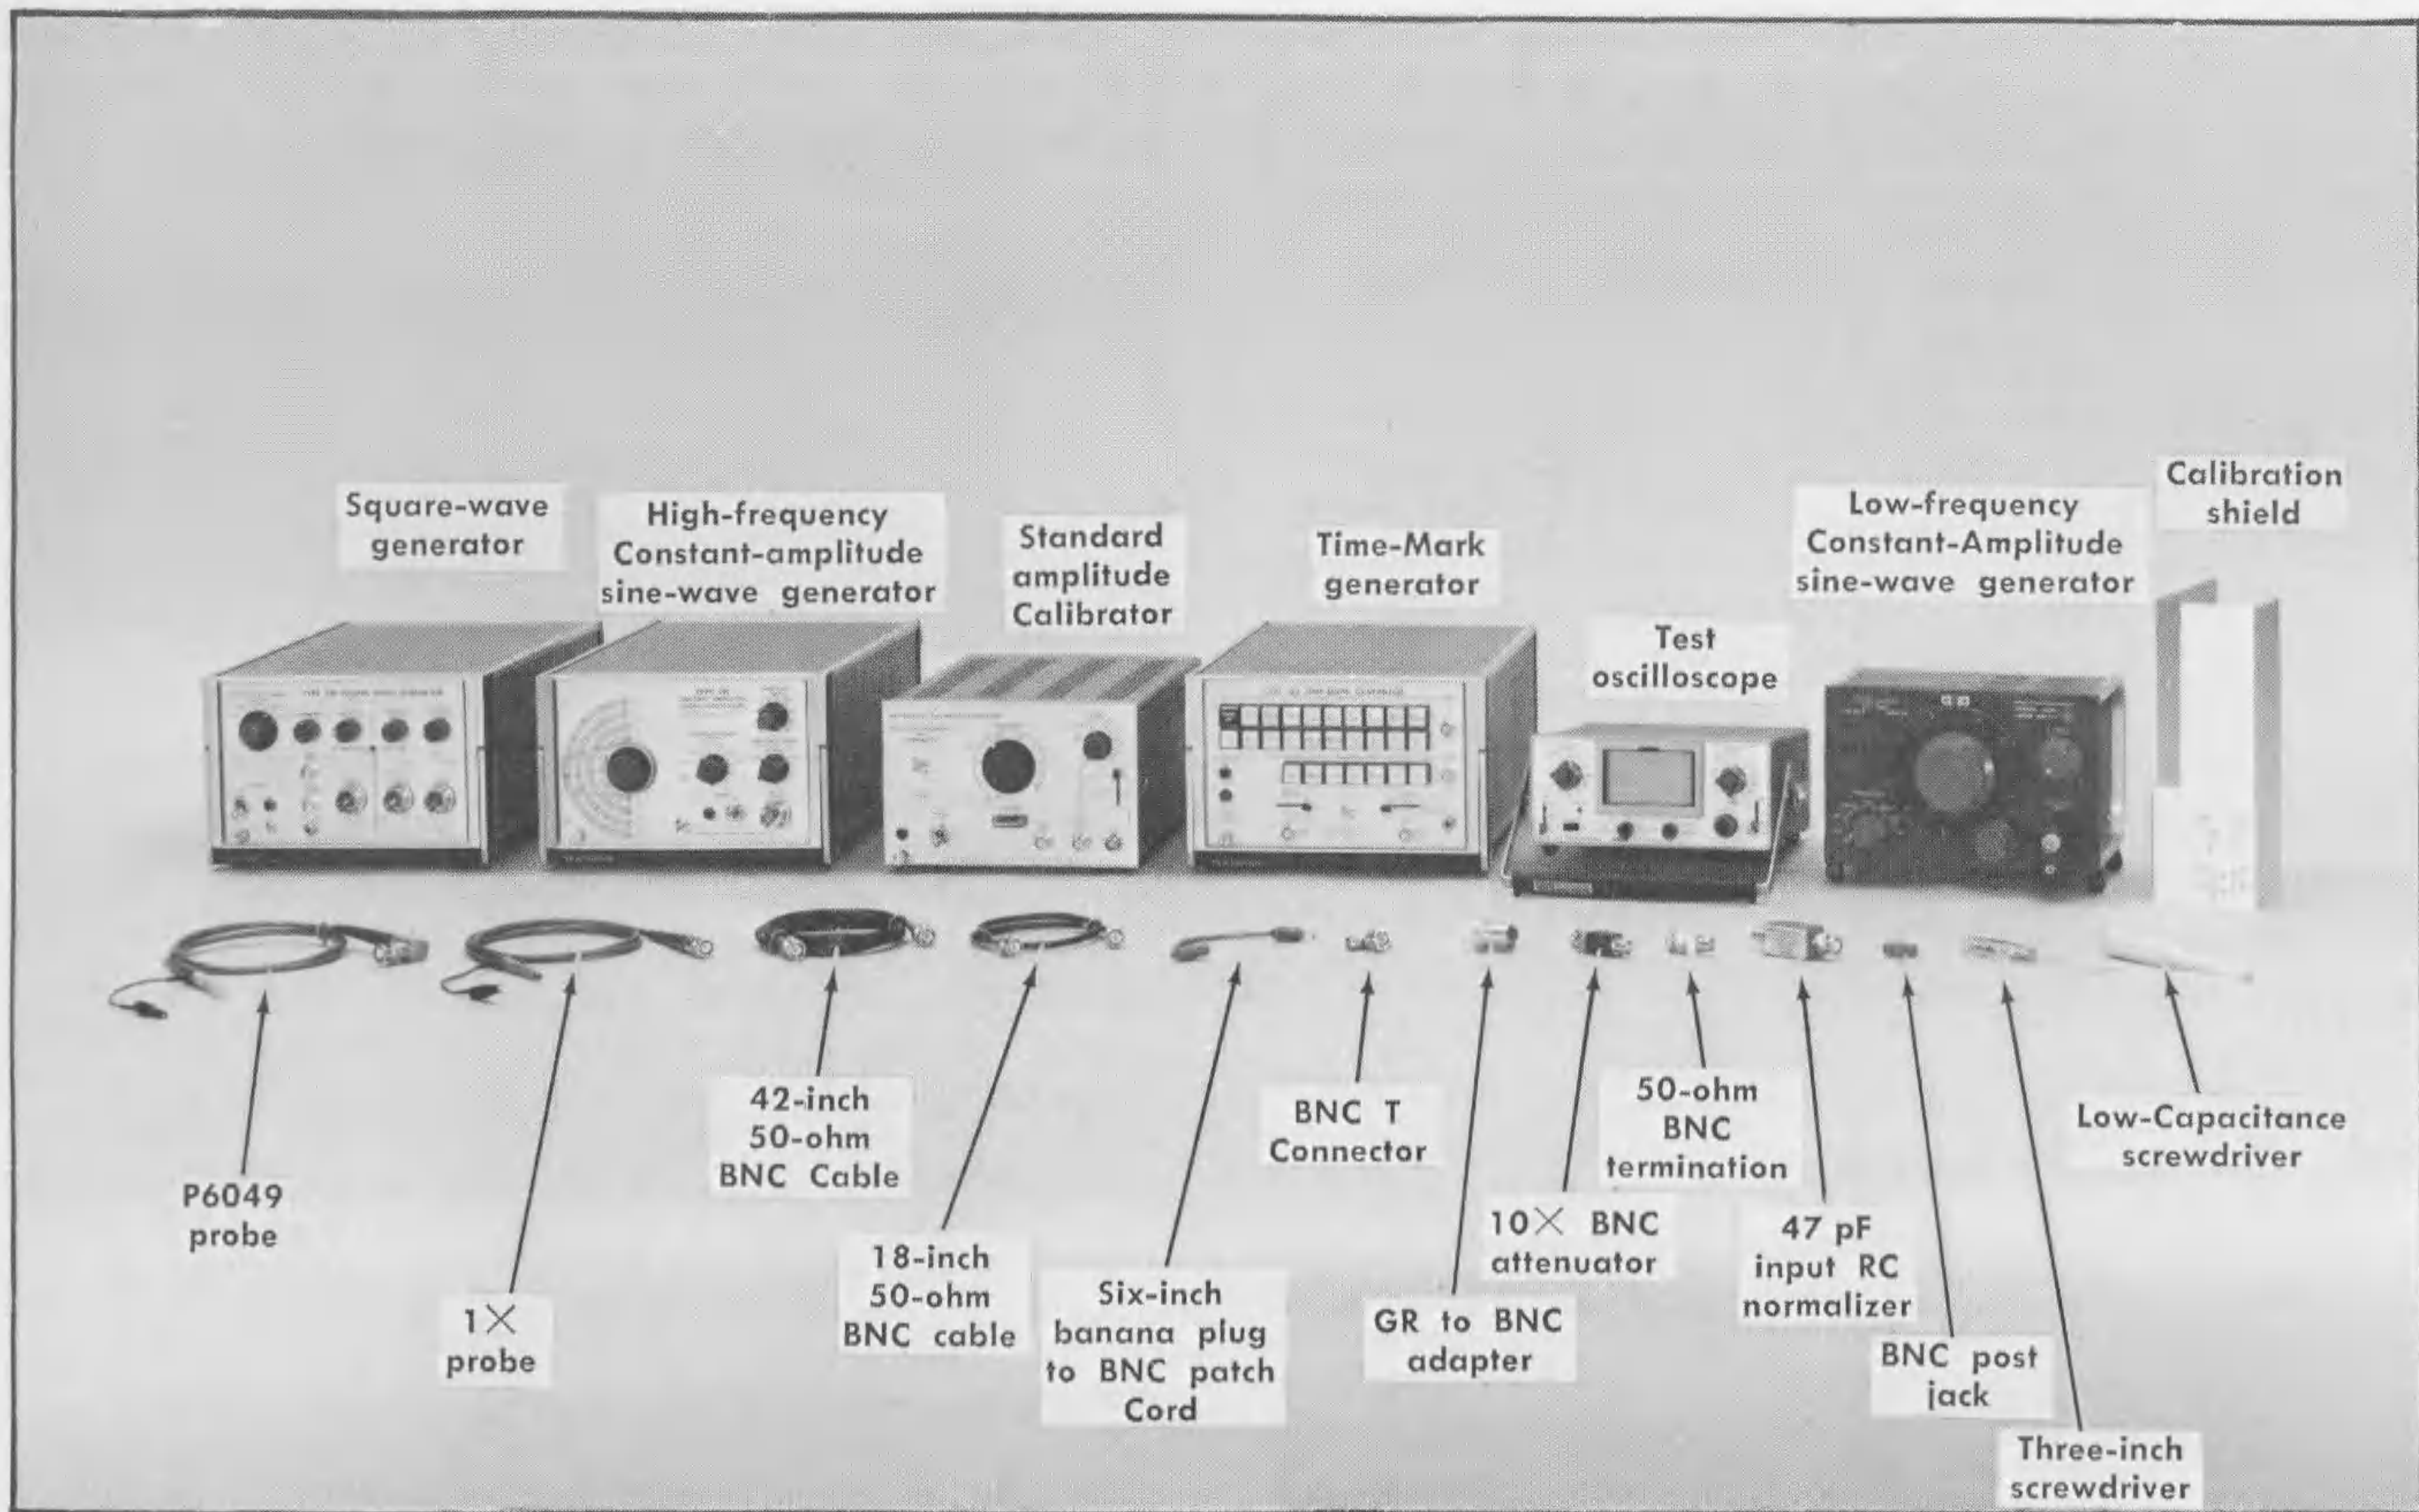

Fig. 5-7. Test equipment required for steps 21 through 46.
a. Test equipment required for steps 21 through 46 is shown in Fig. 5-7.